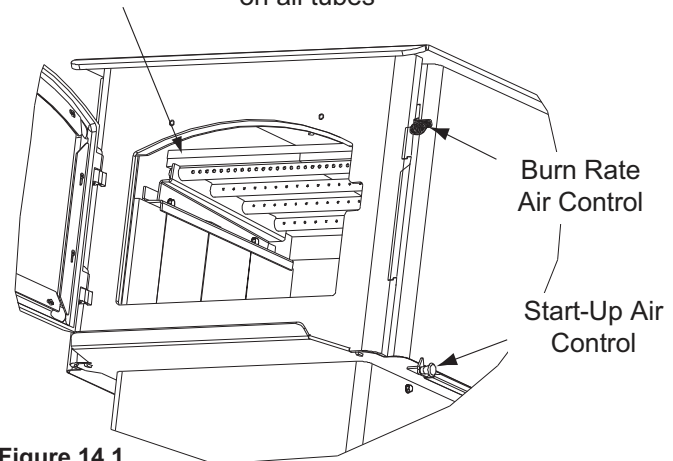
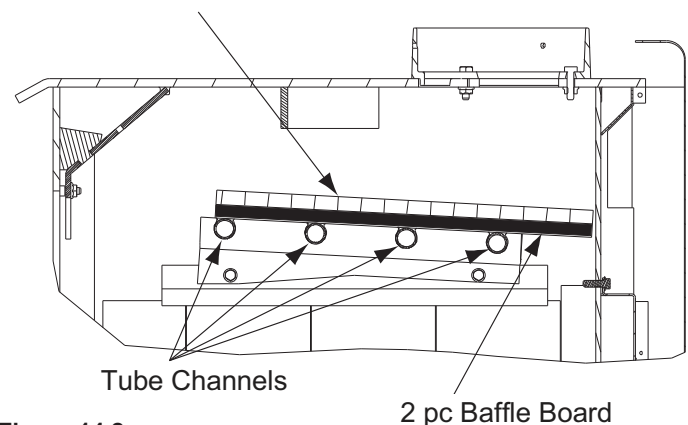

Figure 14.1
Figure 14.2
1. Confirm the baffle is correctly positioned. It should be even with the front tube and resting on all tubes (**Figure 14.1 and Figure 14.2**).